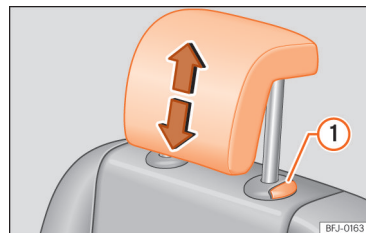

Fig. 97 Rear head restraint: removal.
- Remove the head restraint completely while pressing button >>> **Fig. 97** .